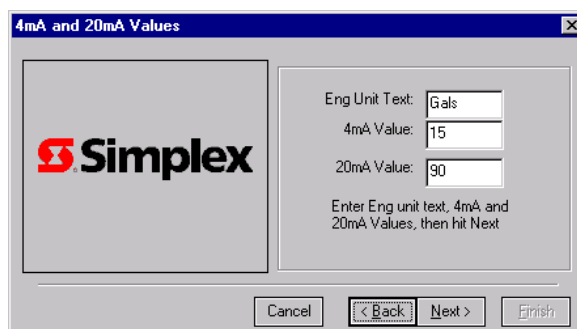

Figure 13-3. 4mA and 20 mA Values Dialog
3. Click the Next button to view the dialog shown in Figure 13-3.
5. Click the Next button at the bottom of Figure 13-3 to continue. A dialog similar to the one shown in the next figure appears